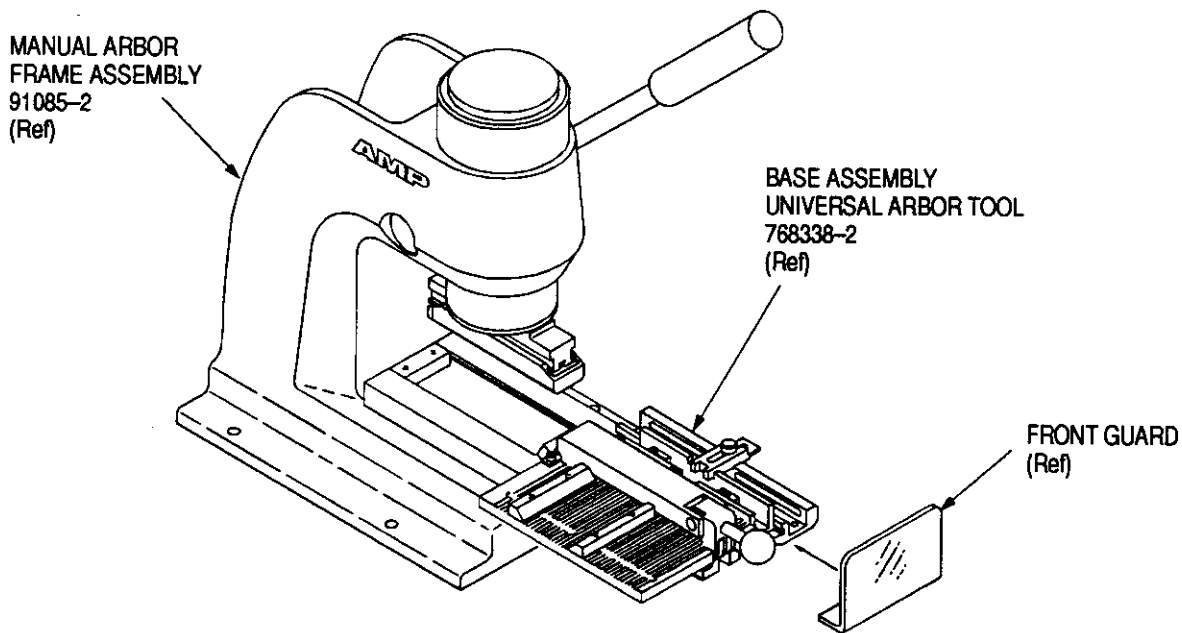

Figure 1
This instruction sheet covers the installation and setup procedures for AMP Connector-Specific Kit 679235-1. The connector-specific kit is used in conjunction with Base Assembly Universal Arbor Tool 768338-2 and AMP Manual Arbor Frame Assembly 91085-2 (see Figure 1), or AMP Pneumatic Auto-Cycle Unit 91112-3 to terminate AMPLIMITE .050 Series Plug and Receptacle Connectors to 0.64 [.025] centerline flat ribbon cable.
**2. DESCRIPTION (Figure 1)**
- Modified illustration of lower insert and locators in Figures 1, 2, 3, and 4